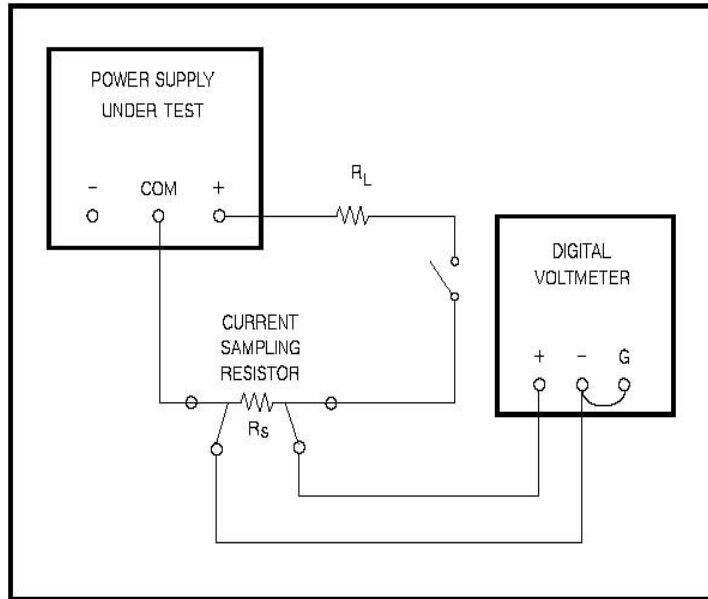

Figure 5-4 Output current, test set up
- 7** Connect the test setup shown Figure 5-4 to the +6 V output. Make the total resistance of R_L and the current sampling resistor equal to 2.4 Ω to permit operating the output at full load. R_L should have a power rating of at least 20 watts.
- 10** Check the rated output and ammeter accuracy of the +20 V and -20 V supplies similarly by connecting the test setup of Figure 5-4 to each output in turn. For each 20 V supply: make the total resistance of R_L and the current sampling resistor 40 Ω , set the ± 20 V VOLTAGE control for a current indication on the DVM of 0.5 A, check that the panel meter indication is within $\pm(0.5\%+2 \text{ counts})$ of 0.5 A (0.48 A to 0.52 A).
- 12** Connect the test setup shown in Figure 5-4 to the +20-volt output. Substitute a short for R_L and leave the load circuit switch open.
- 16** Connect the test setup shown in Figure 5-4 to the +6 V output. Close the switch, set the total resistance of R_L and the current sampling resistor to an initial value of 2.4 Ω or greater, and set the output voltage to 6 volts.